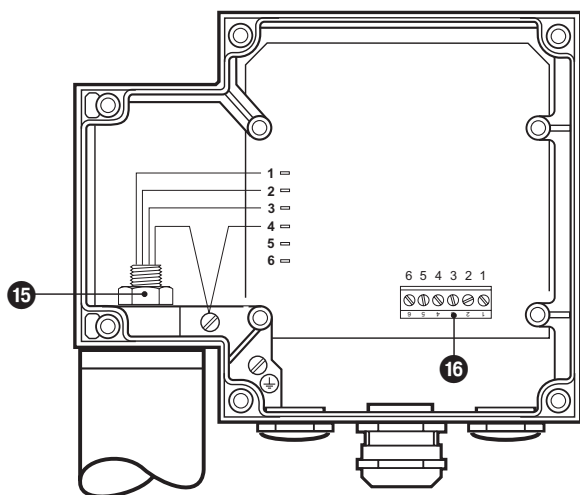

Fig. 15
2. Loosen nut **15** with 19 mm open-end spanner but do not remove! **Fig. 15**